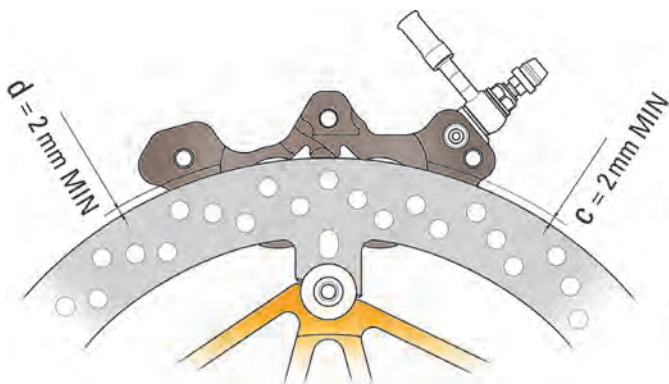

Fig. 2
- The clearance between disc outer circumference and caliper bridge must be 2 mm MIN (see fig. 2).